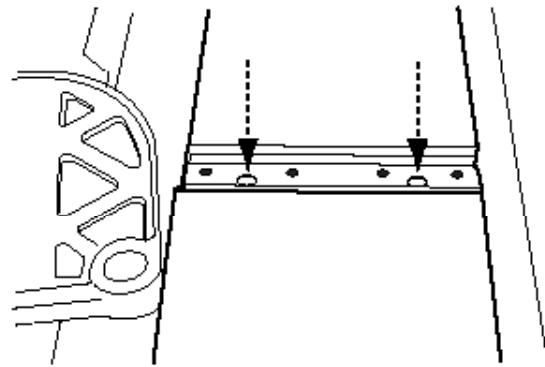

FIGURE 9
- Locate the two adjustment screws on the exposed knife. Refer to Figure 9.